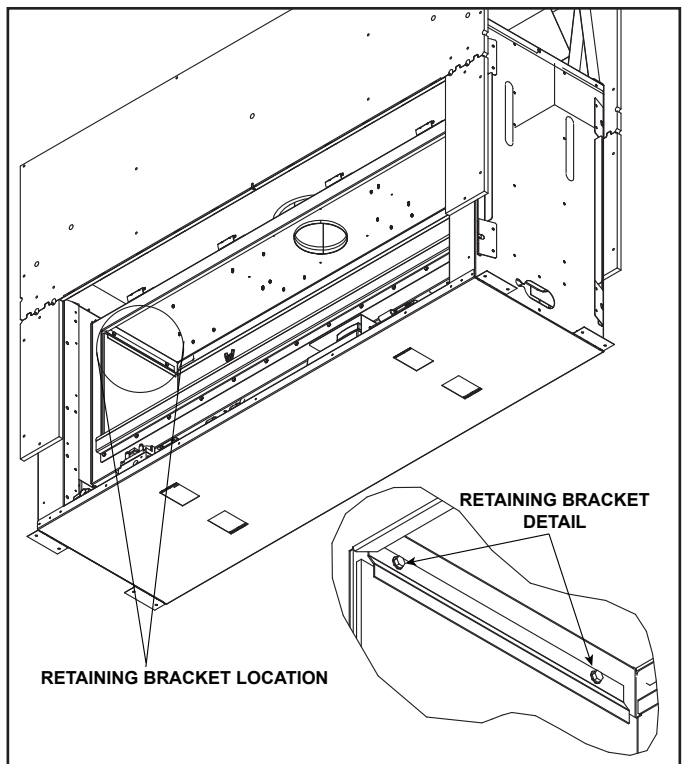

Figure 11.6. Retaining Bracket Installation - See-Through Models
5. Bend the tab on the glass bracket toward the side glass panel until a 1/16 inch - 1/8 inch gap is created between the tab and the side glass panel. See Figure 11.6.
2. Place retaining bracket over glass panel so holes in the bracket are against the firebox side. Use two self-drilling screws to secure the bracket to the firebox side. See Figure 11.6.